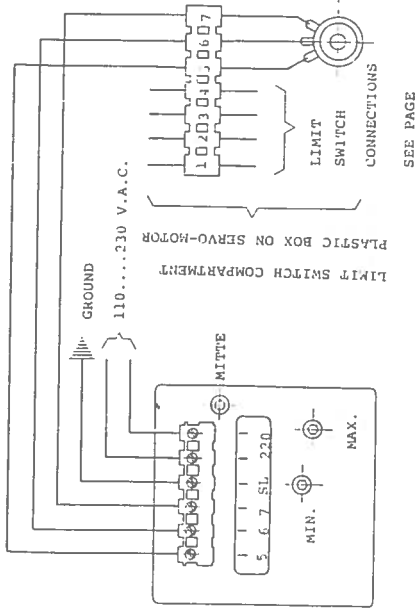

Fig. 12: "PA" Instrumentation
1) The instrument has to be connected to the terminal board of the servo-motor (limit switch compartment) as shown in Fig. 12.